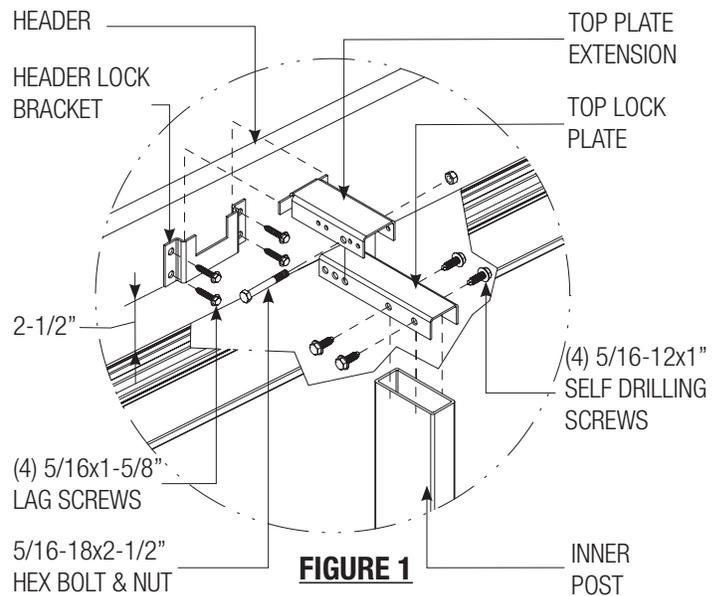

FIGURE 1
Attach the header lock bracket to the header using the (4) 5/16" x 1-5/8" lag screws provided as shown in figure 1. The header lock bracket should be in line with the intermediate hinges where the post is to be installed and located such that the bottom of the bracket is approximately 2-1/2" above the top of the door.
Align the large diameter hole in the top plate extension with the second hole in the top lock plate as shown in figure 1 and bolt together with (1) 5/16-18 x 2-1/2" hex bolt and nut. Align the assembly over the top of the inner post and secure with (4) 5/16-12 x 1" self drilling screws through the holes provided in the top lock plate. Slide the opposite end of the inner post into one end of the outer post.